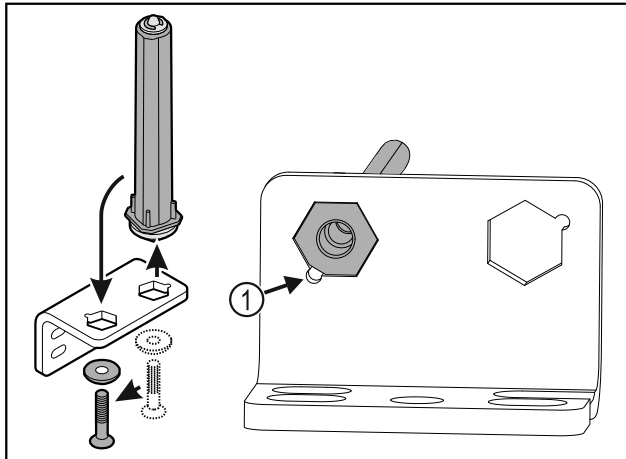

Fig. 40
- ▶ Make sure the pin chamfer Fig. 40 (1) faces the round hole when you put it in.